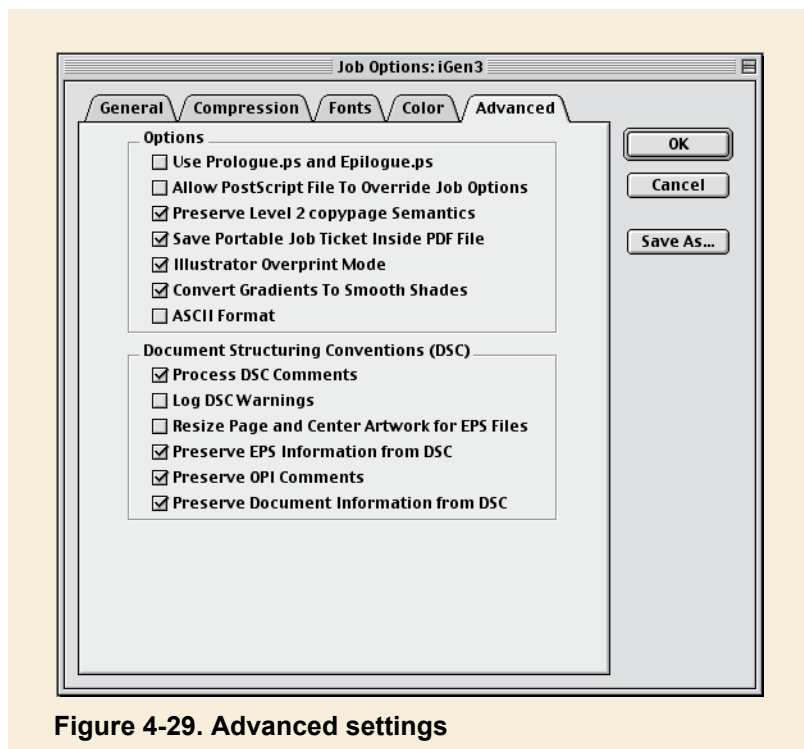

Figure 4-29. Advanced settings
- **Advanced settings** - Many of the Advanced settings (Figure 4-29) are dependent on preferences of your print provider. Always consult with them for best results.
- Distiller v5 does not process OPI 2.0 comments from QuarkXPress. Either disable the OPI active in the Print window or set Distiller's Preserve OPI Comments to Off. (Figure 4-29).
- Convert Gradients to Smooth Shades (Figure 4-29). This can help smooth vignettes/sweeps/gradients with Vector based programs such as Adobe Illustrator or QuarkXPress. Using this feature with Microsoft Office jobs may or may not improve the job due to the way sweeps are generated in those applications.